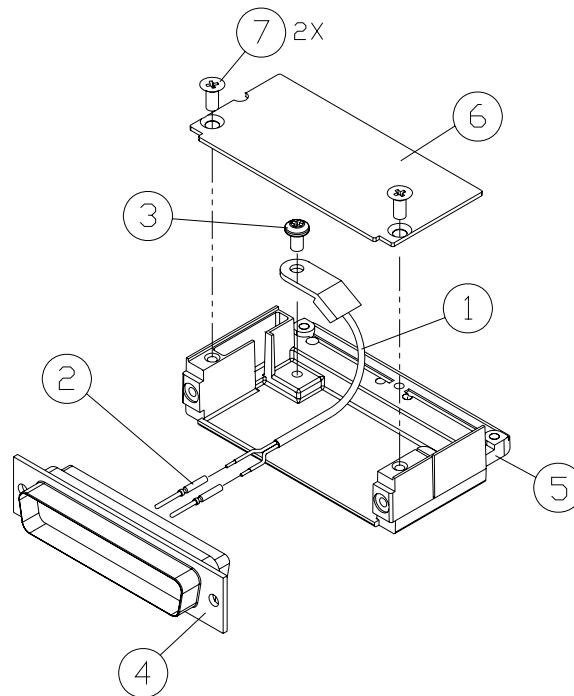

Figure 5-21. Thermocouple Installation
1. Crimp pins, item 2, onto each of the thermocouple wires, item 1. Ensure that pre-stripped wire length is 1/8" prior to crimping.
2. Insert newly crimped pins and wires into the appropriate connector housing location, item 4, as specified by the aircraft-specific interconnect diagram.
3. Place thermocouple body, item 1, onto the backshell boss, item 5. Place the thermocouple as shown in Figure 5-21 so that the wires exit towards the bottom of the backshell.
4. Fasten thermocouple tightly to backshell using the provided screw, item 3.
5. Fasten cover, item 6, to backshell using the provided screws, item 7.